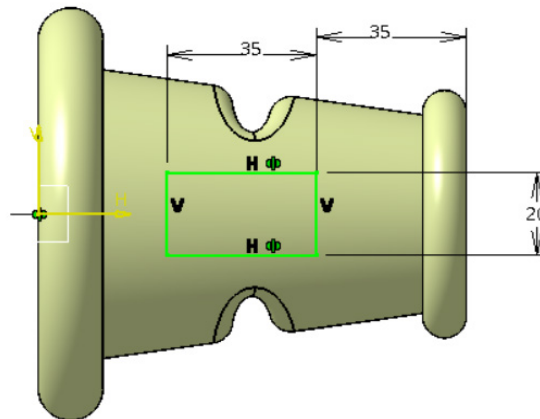

Figure 17-93 Sketch to create the projected curve
2. Create the sketch, as shown in Figure 17-93, and exit the sketch workbench.